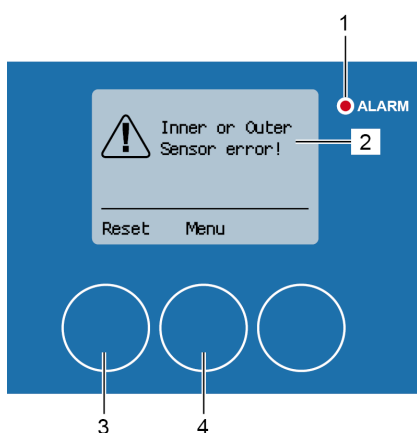

Fig. 190: Inner or outer sensor alarm
The alarm message "Inner or Outer sensor error!" (Fig. 190/2) occurs during the cleaning process if there is a problem with the inner and/or outer proximity sensor. The red alarm LED (Fig. 190/1) lights up.
2. Reset the alarm message with [Reset] (Fig. 190/3).
If the alarm message is reset without first rectifying the error, the alarm message appears again. The "1 Main menu" menu can be called up via [Menu] (Fig. 190/4), e.g. to check the signal status of the proximity sensors chapter 7.6 Status indicators on page 108.